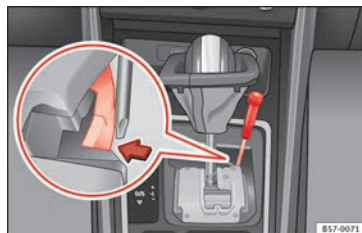

Fig. 56 Selector lever: manual release from position P.
- Using a screwdriver, press and hold the yellow unlocking tab sideways  **Fig. 56**.